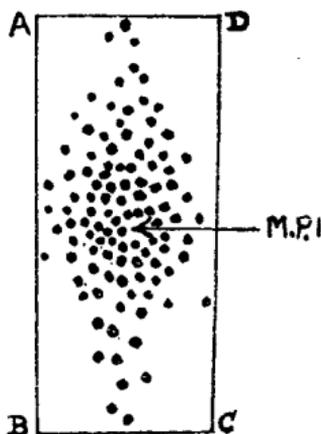

Fig. 1
If, however, a large number of rounds is fired, they will all fall in an area which is approximately a rectangle, called the 100 per cent. beaten zone. (ABCD in Fig. 1.)
*Explain Fig. 1 on the blackboard.*